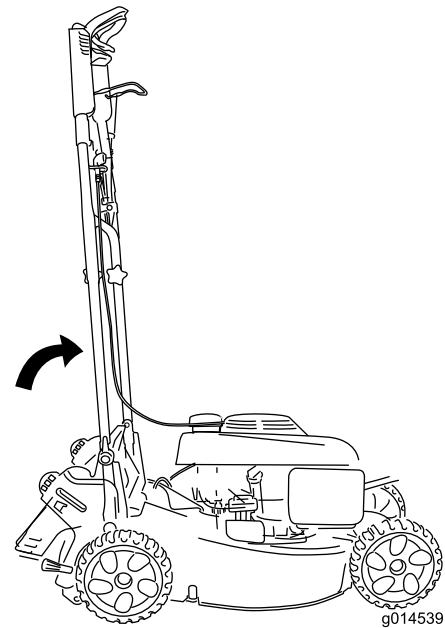

Figure 28
- To store your machine in the smallest amount of floor space, set the handle in the vertical position (Figure 28) and secure the handle locks.